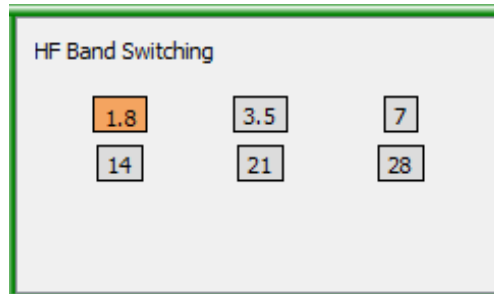

Figure 44 – HF Band Switching
3.4.1.1 Multi-band (HF) Contests
For multi-band (HF) contests the screen layout will have to be modified (see Section 3.5) to display the **‘HF Band Switching’** panel (Figure 44). The orange button shows the currently active band.